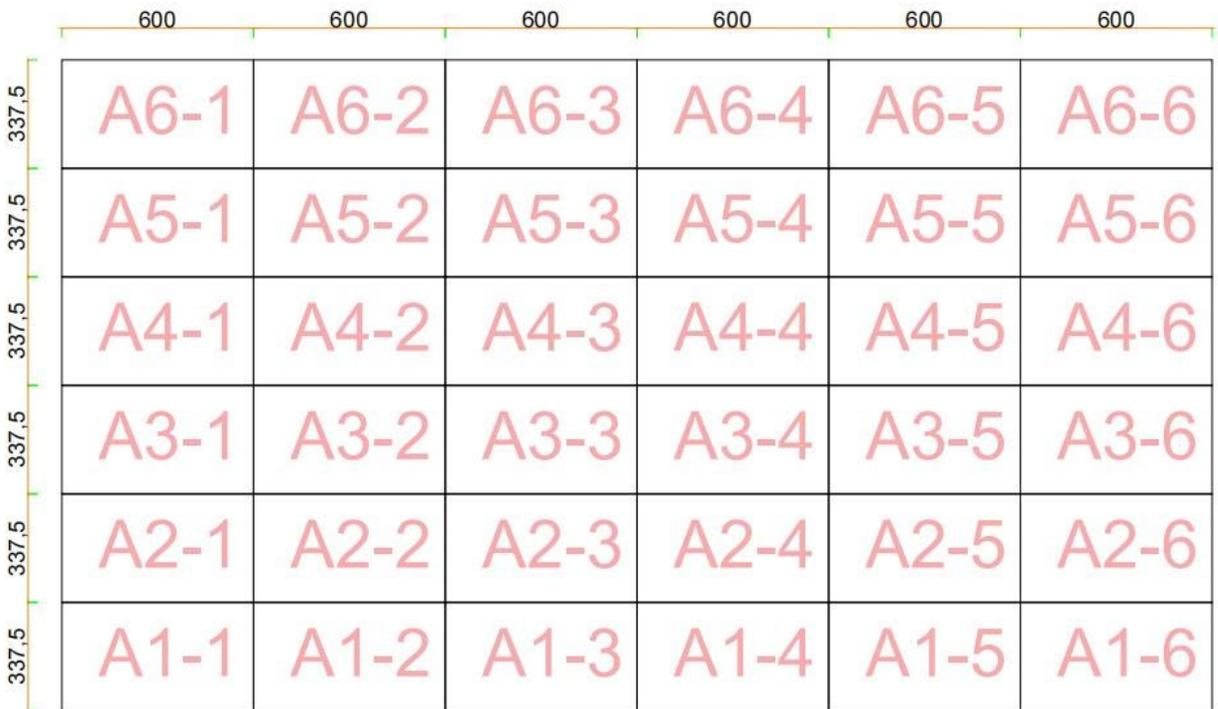

Fig 2-4
2. Unpack the cabinets and arrange them according to their numbered sequence, ensuring proper alignment based on cabinet size(Figure 2-4) .